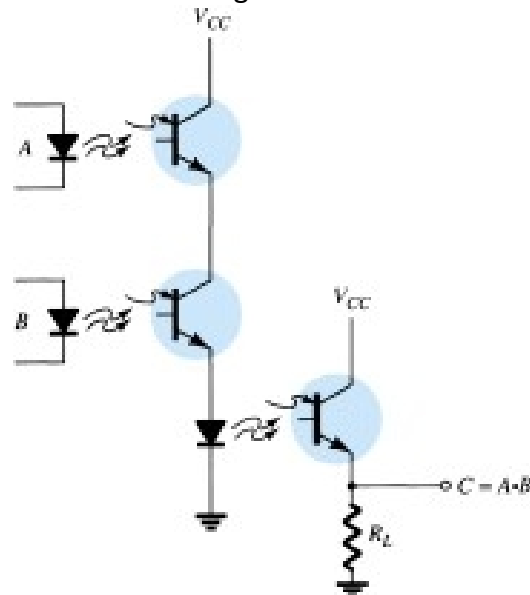

Figure-30 High-isolation AND gate employing phototransistors and light-emitting diodes (LEDs)
- A high-isolation AND gate is shown in Figure-30 using three phototransistors and three LEDs (light-emitting diodes). The LEDs are semiconductor devices that emit light at an intensity determined by the forward current through the device.